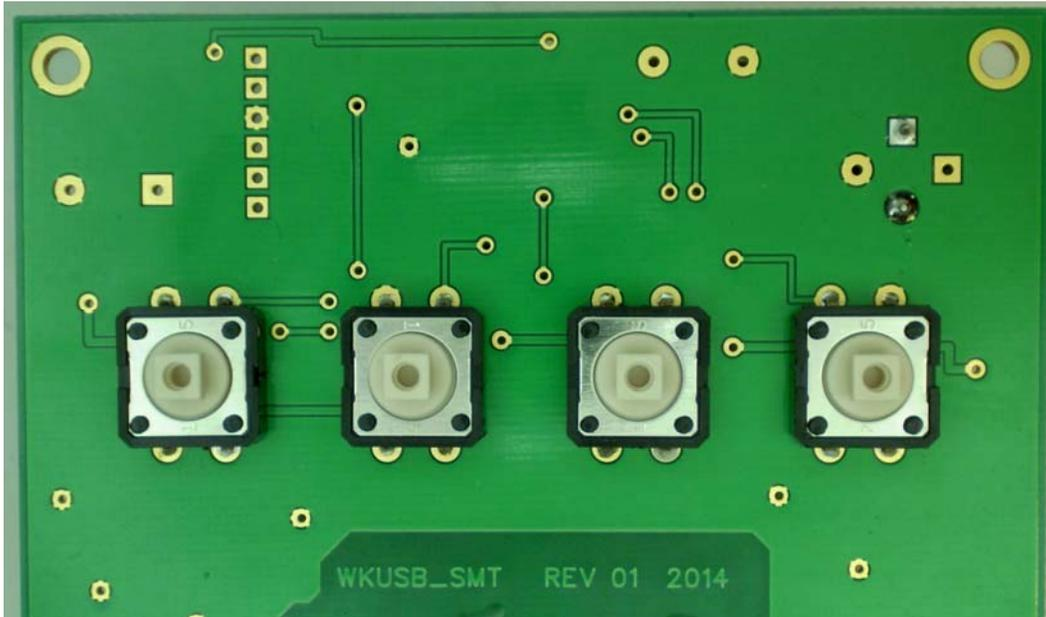

Figure 3 – Pushbutton switches installed correctly
- 6) Now install four pushbutton switches on the **!! BOTTOM !!** side of the PC board as shown in figure 3. Make sure the switches are flush to bottom of the board before soldering from the top of the board. After soldering, attach the square push-button caps, with red on S1, which is on the left when the phono jacks face away from you, switches facing up. Press firmly until they snap in place, just a small amount of force is required.